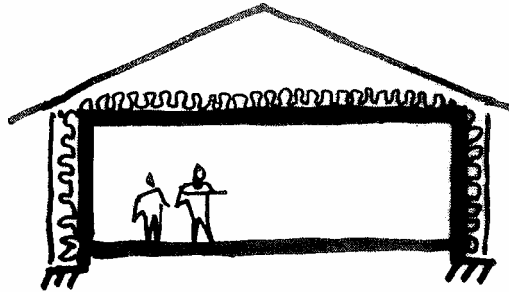

Figure 10.2 – Insulation has to be protected
- ❖ **Protect the outside wall with roof overhangs or exterior insulation with damp proofing.** Fig 10.2